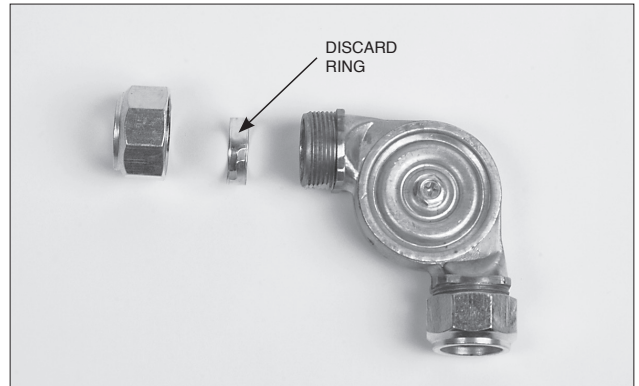

FIGURE 5-62
1. Unscrew the nut from the pulley elbow, pulley tee, or EMT conduit connector and remove the compression ring. Discard the ring. See Figure 5-62.